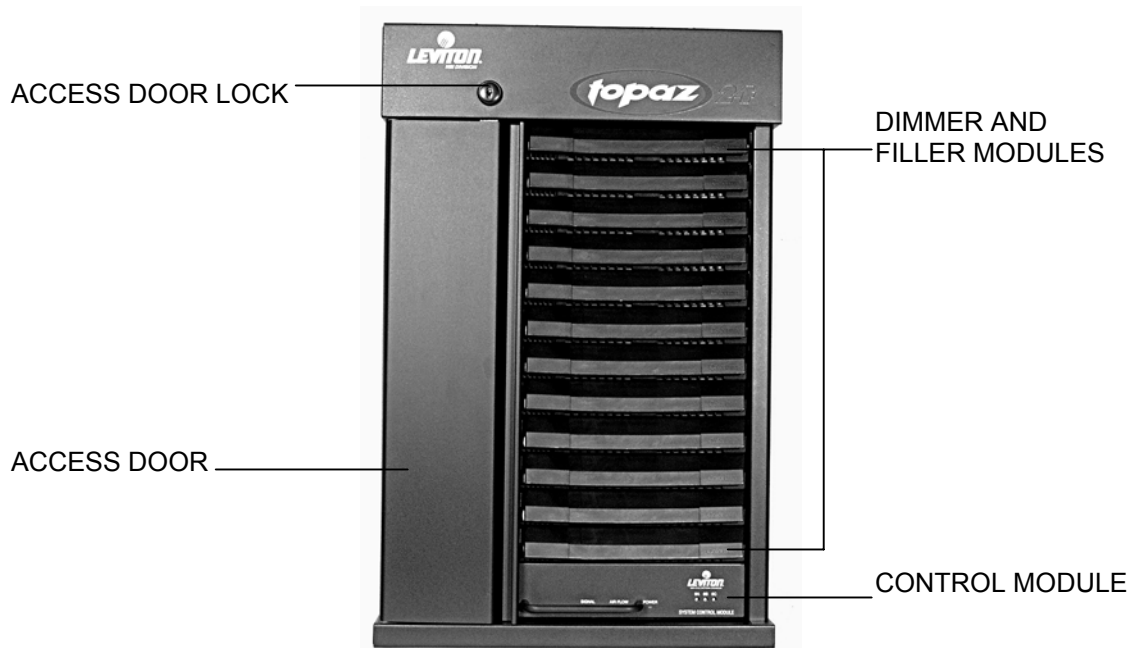

Figure 8 - Assembled Rack
- Close the front access door. This will aid proper cooling of the rack and restrict access to the dimmer circuit breakers. See Figure 8.